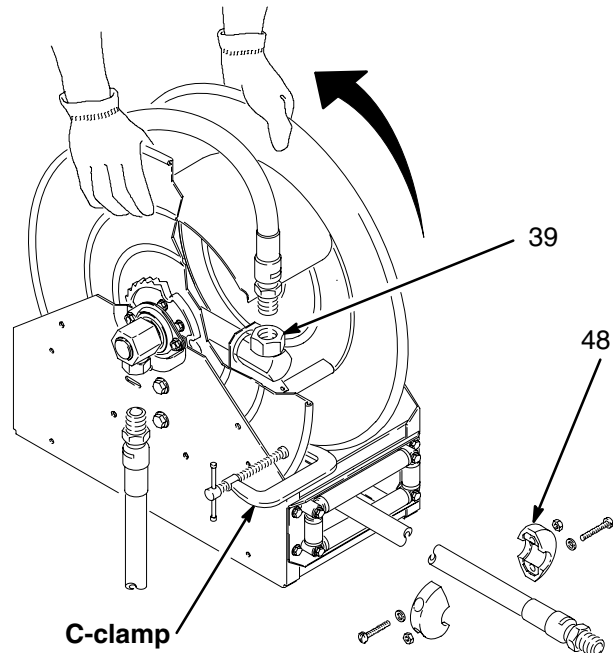

Fig. 5
3. Unlatch the reel drum, and allow it to slowly rotate until all spring tension has been released. Then rotate the reel in the direction of the arrow shown in Fig. 5 to achieve the proper amount of spring tension for the hose you are installing. The table below shows the number of rotations required for each hose.
4. Attach a C-clamp to the reel flange, as shown in Fig. 5, to help prevent the reel from unintentionally becoming unlatched and spinning freely.